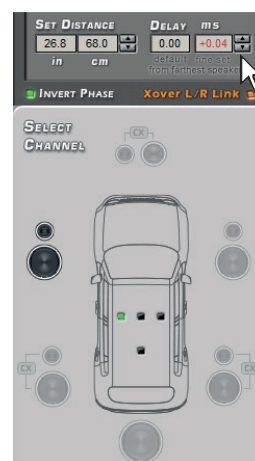

Fig. 6
It will then be possible to perform fine tuning by using the Fine Set function. (fig.6)
5. Perform all time delays settings, start playing music and select the Fine Set box. By shifting the values between positive or negative (except for the Subwoofer in Fig.6 since it is the farthest speaker), the best time alignment and correct acoustic scene can be obtained.